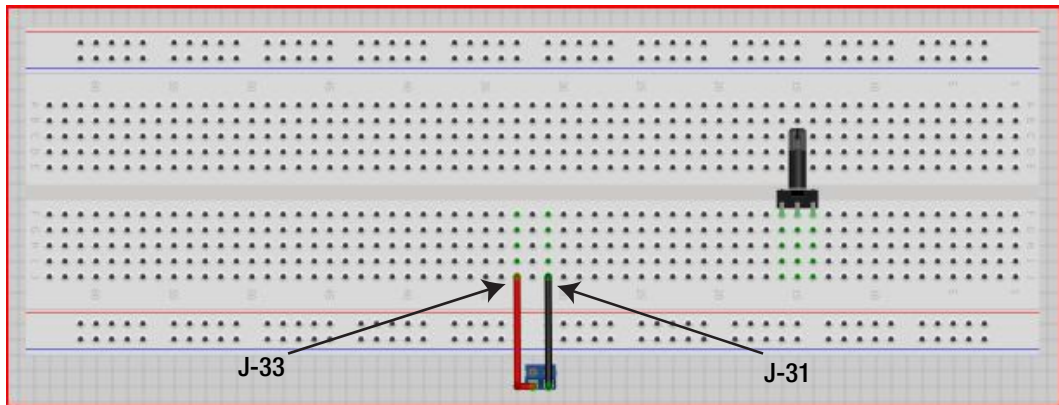

Figure 23-3. Attach the terminal block to the breadboard
2. Next, attach the two-position terminal block to the solderless bread board at J-31 and J-33, making sure you have the 9V battery harness attached to the terminal block (though you won't be connecting a 9V battery to this connector; you'll be connecting 6V to the servo in the next chapter). Be sure to know which row on the breadboard will provide power (red wire) and which row is ground (black wire). In Figure 23-3, our red wire is on row 33 and our black wire is on row 31.